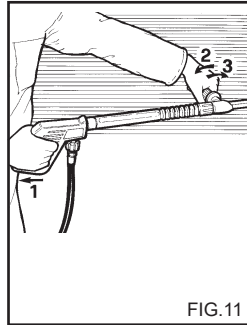
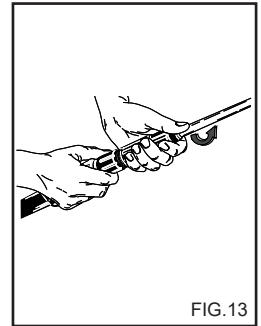

FIG.11
FIG.13
USE OF THE DOUBLE LANCE (fig. 13) (optional accessory)
USING THE ADJUSTABLE HEAD (Fig. 11) (optional accessory)
2) Detach the extension from the handgrip and fit the double lance or lance with adjustable head (fig. 13). Operate the high pressure washer, activate the detergent suction control on the lance (figs. 11, 12) and spray the surface to be washed, working from the bottom upwards.